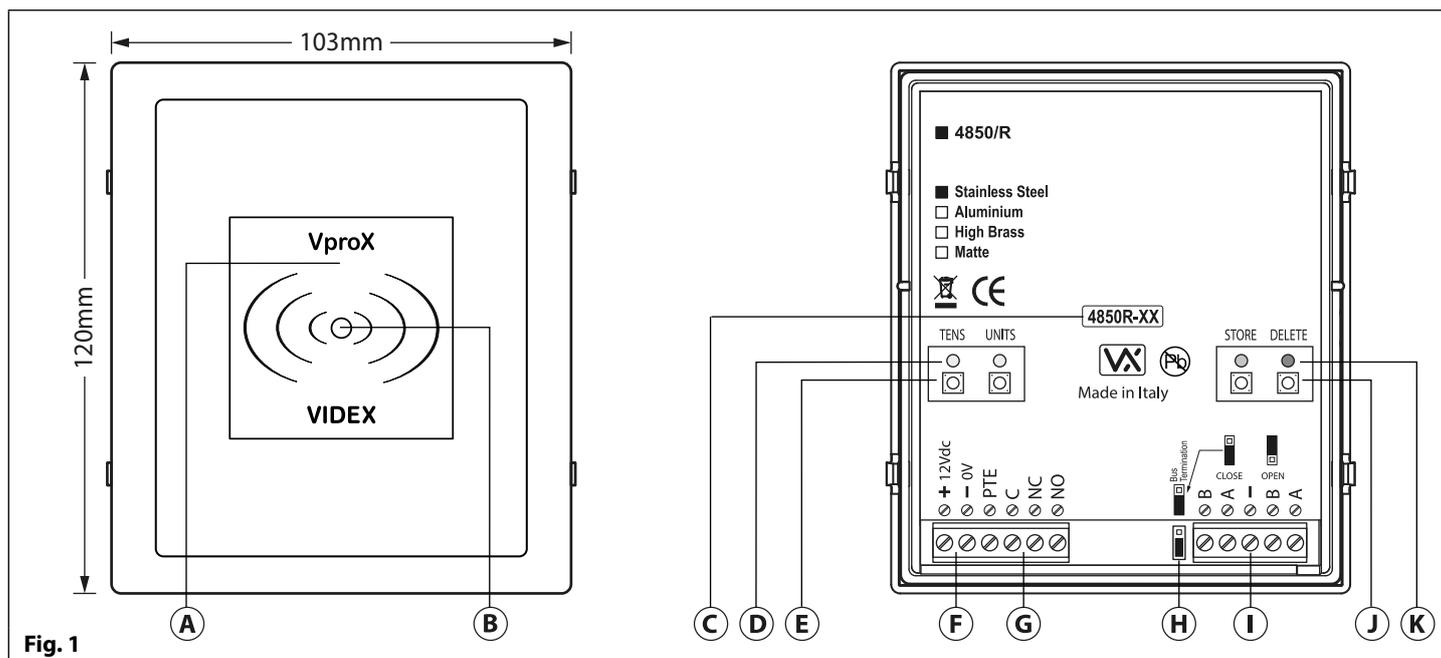

Fig. 1
The Art.4850R is an expansion proximity reader, **Fig.1**, that can be connected to the Art.4810 GSM intercom (3G and 4G versions) via the RS485 bus connection. It allows the GSM intercom to have up to 7 additional proximity access doors or can be used with a combination of proximity and coded access using the Art.4903 keypad (up to a total of 8 devices with the GSM's onboard reader as device ID.1).
In standby the status indication LED on the front of the Art.4850R reader (**Fig.1, (B)**) will be switched ON (amber).
**Access Granted:** To operate the relay on the reader present a programmed fob/card to the proximity reading area (**Fig.1 (A)**). Once the fob/card is presented the status LED will change from amber to green and the onboard relay will activate for the duration of the programmed relay time. The reader will also emit a double beep.
**Access Denied:** If a fob/card is presented to the reader that is not stored in the GSM PRO intercom the status LED on the front of the reader (**Fig.1, (B)**) will change from amber to red and will emit 1 short beep followed by a short double beep.